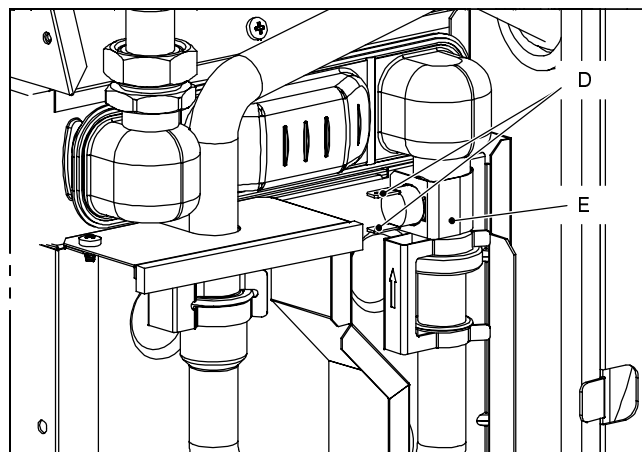

Fig. 79
- 3 Disconnect the wiring *D* (detail in Fig. 79).